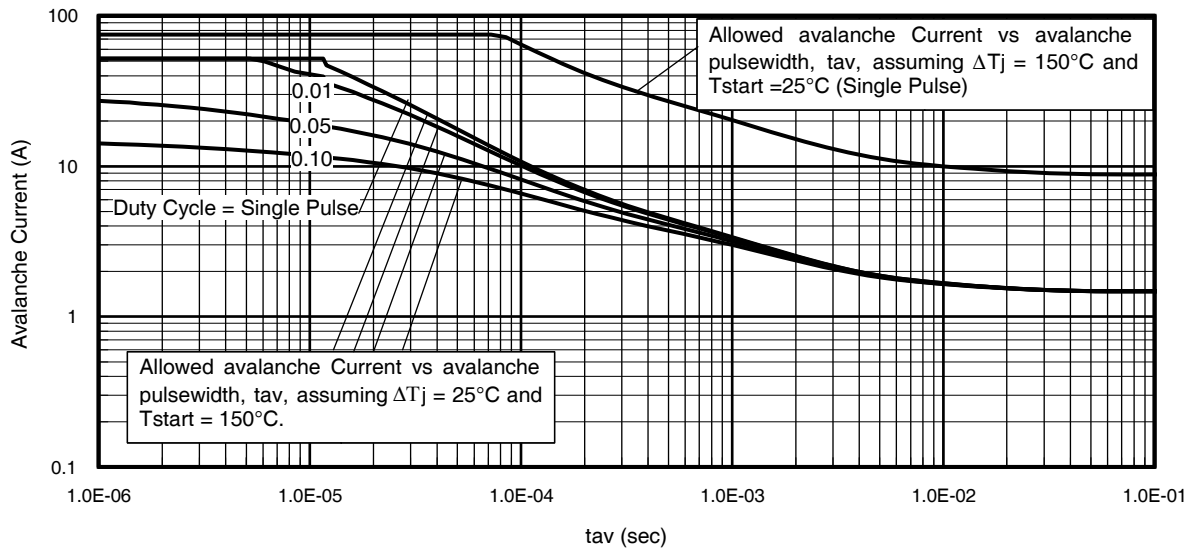

Fig 14. Typical Avalanche Current vs. Pulsewidth
Notes on Repetitive Avalanche Curves, Figures 14, 15:
7. ΔT = Allowable rise in junction temperature, not to exceed T_{jmax} (assumed as 25°C in Figure 14).